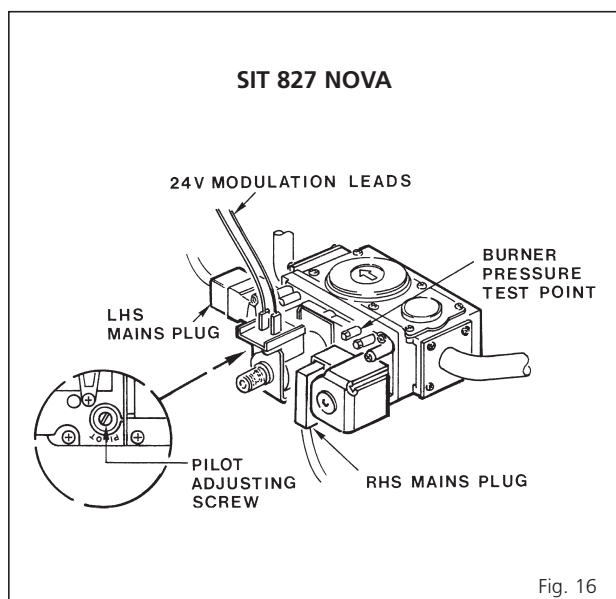

Fig. 16
- Remove the screw and connect a pressure gauge to the burner pressure test point on the gas valve (fig. 16).
To do this isolate the electrical supply, remove the L.H. mains plug from the gas valve and restore the mains supply. The pilot will light, but not the main burner. Check the pilot flame and adjust if necessary. See fig. 16 for the pilot adjusting screw. (anticlockwise rotation increases pilot length), then isolate the electrical supply, refit the L.H. mains plug and restore the electricity supply again.